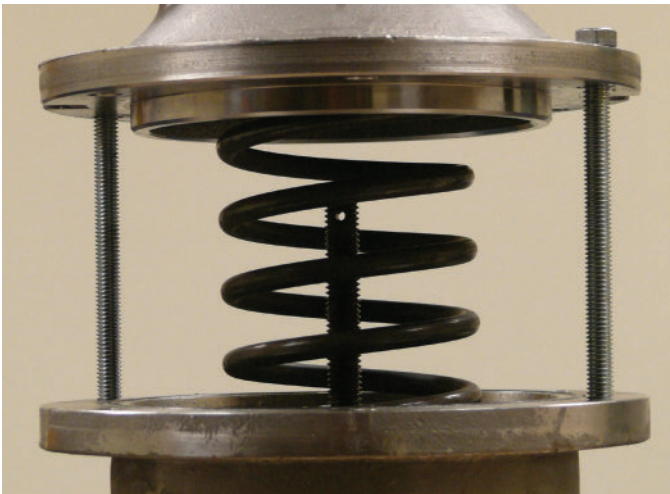

Figure 9-37 Thread Hex Head Bolts into Motor Housing
32. Install hex head bolts (Item 36) through housing cover and thread into motor housing. (Figure 9-37)